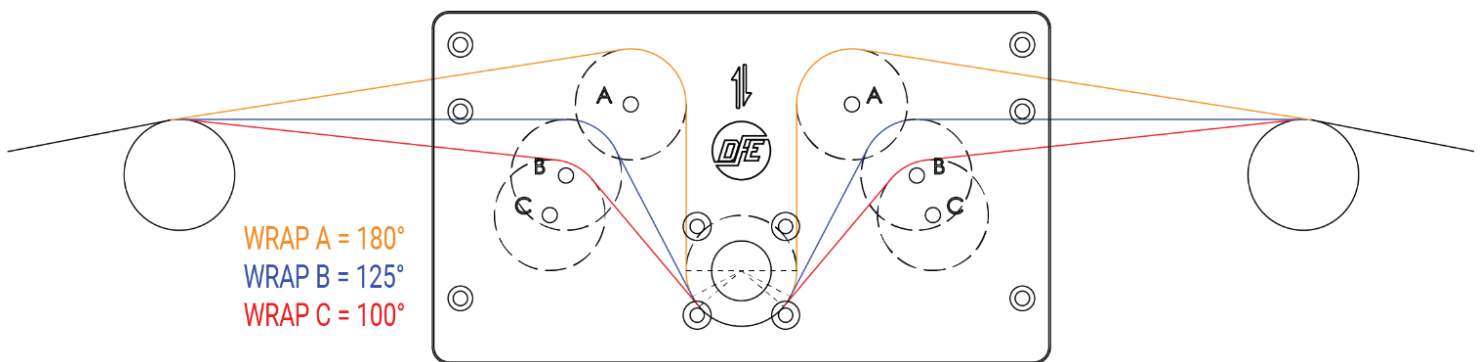

Figure 4 – Mount right-side up for 100°, 125° & 180° wrap angle
1. ORIENT THE FIXTURE PLATE (see Figures 4 and 5)